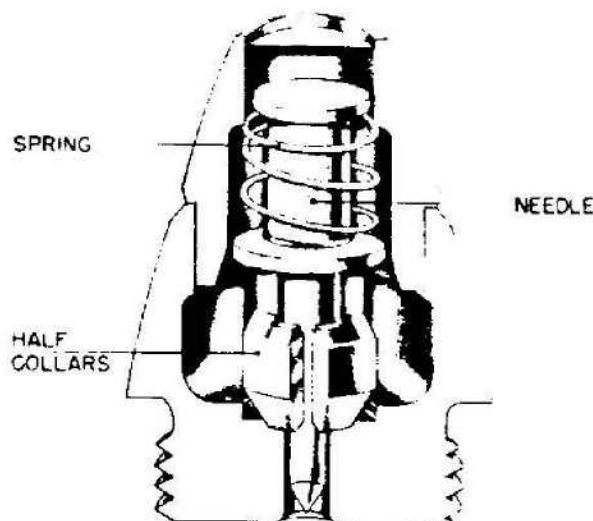

Figure 555—A. Z. 1531
**EMPLOYMENT:** Nose fuze used in 20-mm Aircraft Cannon Ammunition. (See fig. 555.)